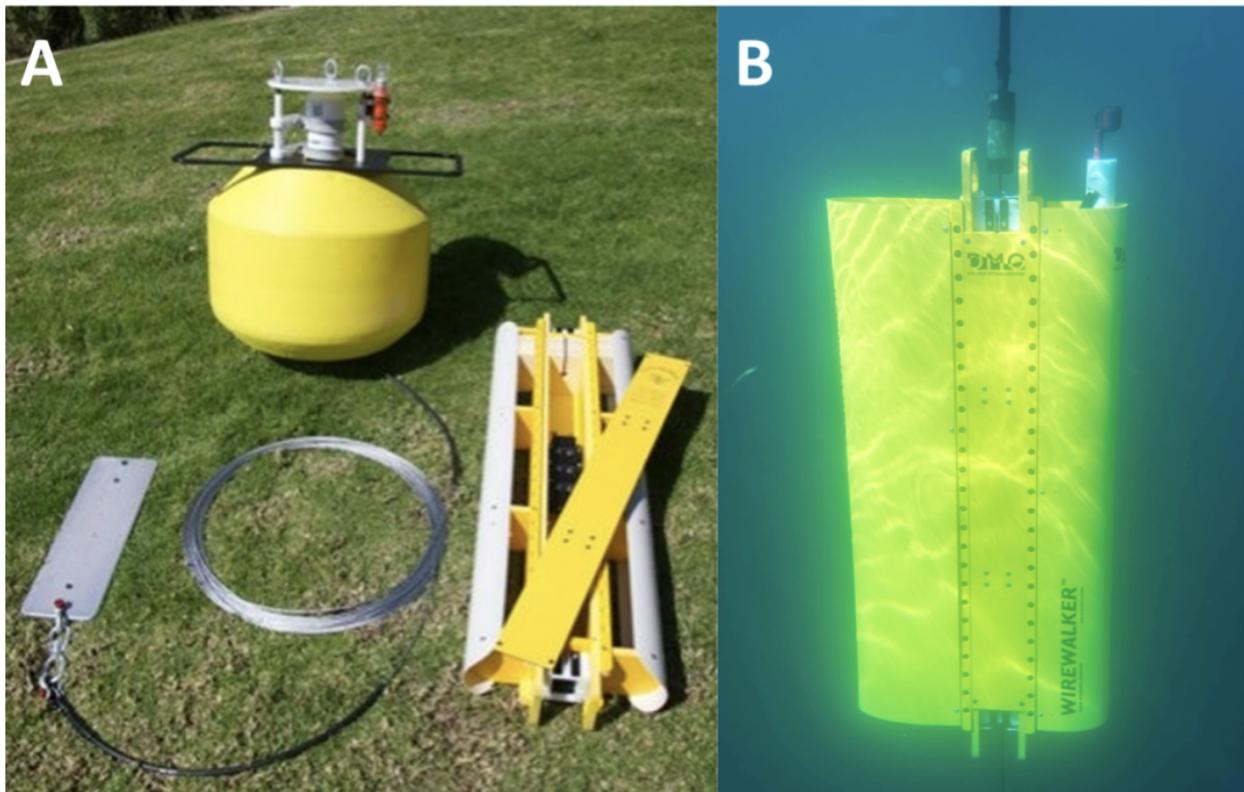

Figure 1: (A) Wirewalker surface float, profiler, cable and downweight, (B) submerged profiler.
- Free vertical motion of the buoy-wire-weight combination (Figures 1 and 2): Specifically, the downweight at the end of the profiling wire should not become grounded or the wire slackened for any other reason.